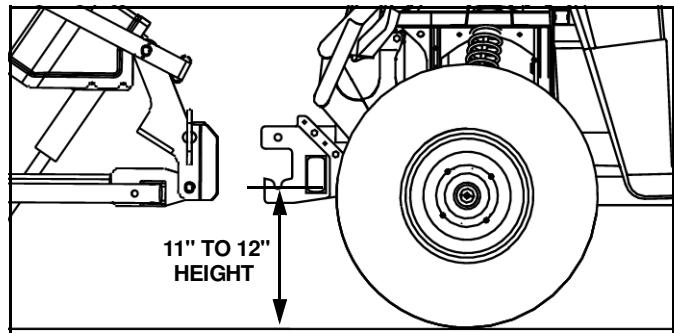

Figure 8
10. Align the mount holes with both Bracket Weldments (#2 & #3) to provide an 11" to 12" height between the lower pin slots and the ground. (See Figure 8.)